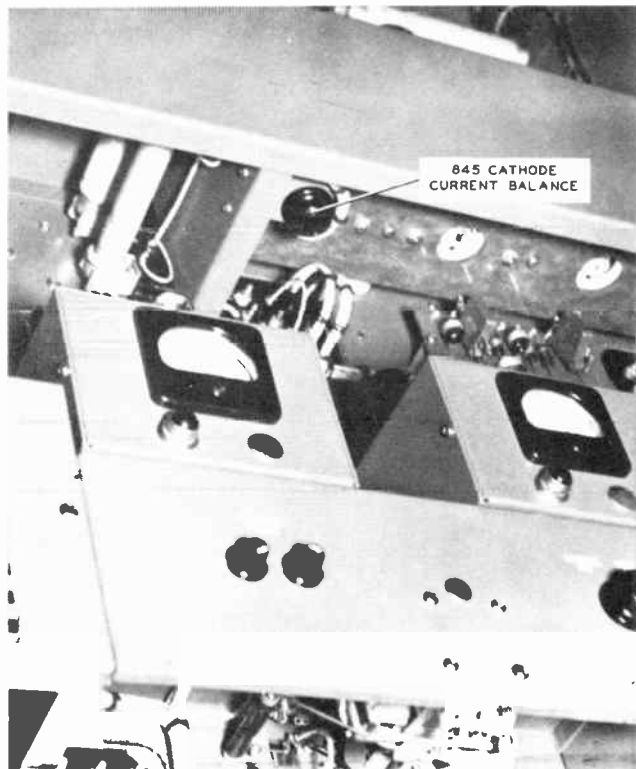

Figure 3-5' 845 Cathode Current Balancing Adjustment
(1) Place the POWER switch in the HIGH position.
(2) Pull the PLATE start-stop control to apply plate voltage to the audio drivers and modulators.
(3) Rotate resistor R250 for cathode current balance of the 845 tubes. See figure 3-5.